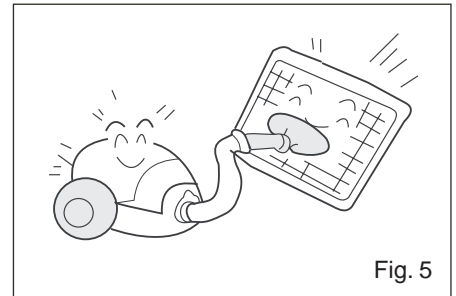

Fig. 5
- 2) Clean net type filter by using a vacuum cleaner adjusted to min. suction capacity, in order to avoid to damage the filtering net, as it is shown in Fig. 5. Dust must be sucked up from the filter's exterior side, that is normally addressed towards the air inlet panel of Indoor Unit.